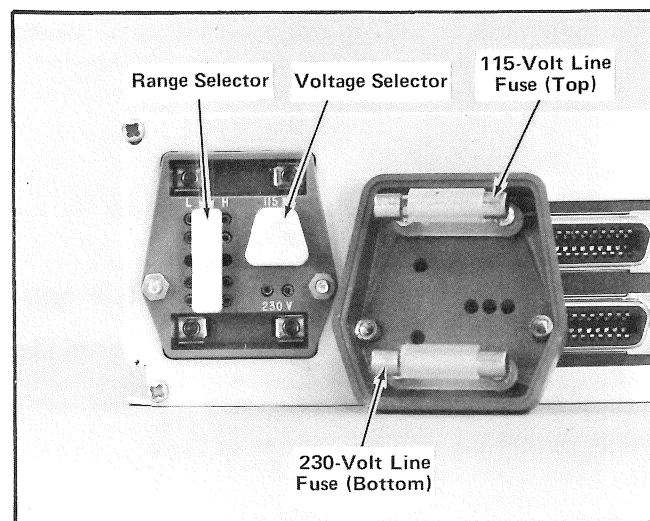

Fig. 2-18. Line Voltage Selector Assembly on rear panel of Type 286.
3. To convert to a different line voltage, pull out the Voltage Selector switch bar (see Fig. 2-18), turn it around 180° and plug it into the opposite set of holes. The Voltage Selector switch bar will be in the upper position for 115 volt operation and in the lower position for 230 volt operation.
4. To change regulating ranges, pull out the Range Selector switch bar (see Fig. 2-18), slide it to the desired range and plug it back in. Select a range which is centered about the average line voltage to be applied (see Table 2-9).